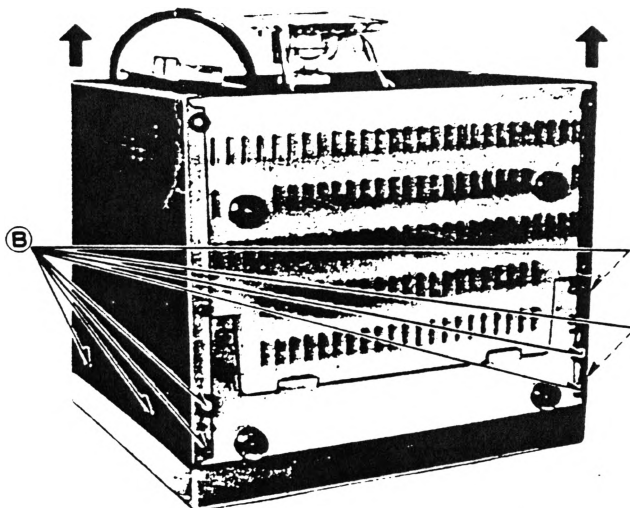

Figure 3
2. Remove 8 (B) screws and then carefully pull the top panel upward as shown in figure 3.